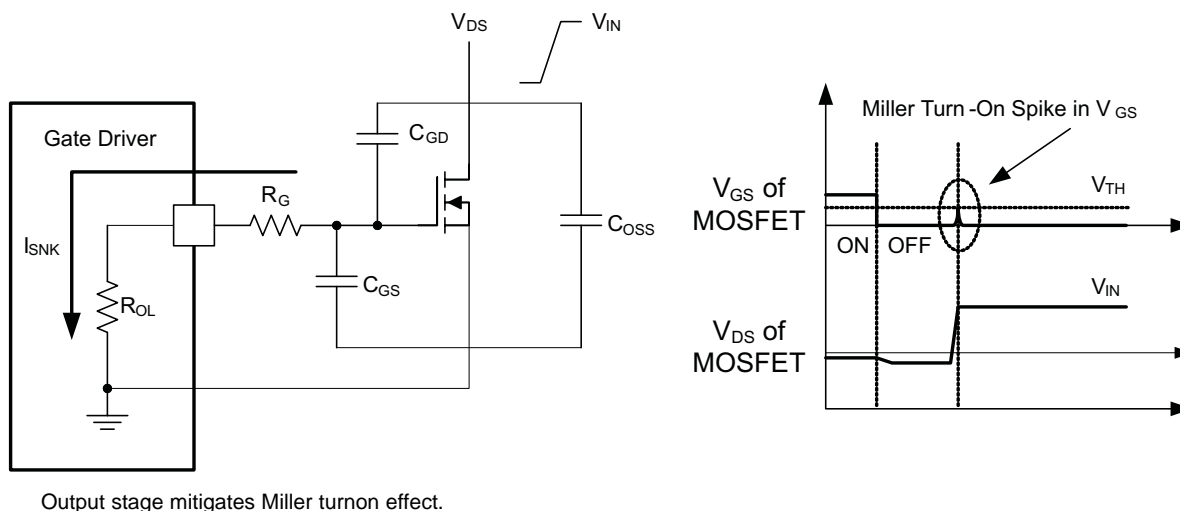

Figure 13. Low-Pulldown Impedance in UCC27611, 4-A and 6-A Asymmetrical Drive
An example of a situation where Miller turnon is a concern is synchronous rectification (SR). In SR application, the dV/dt occurs on MOSFET drain when the MOSFET is already held in OFF state by the gate driver. The current discharging the C_{GD} Miller capacitance during this dV/dt is shunted by the pulldown stage of the driver. If the pulldown impedance is not low enough, then a voltage spike can result in the V_{GS} of the MOSFET, which can result in spurious turnon. This phenomenon is illustrated in Figure 13. UCC27611 offers a best-in-class, 0.35- Ω (typ) pulldown impedance boosting immunity against Miller turnon.